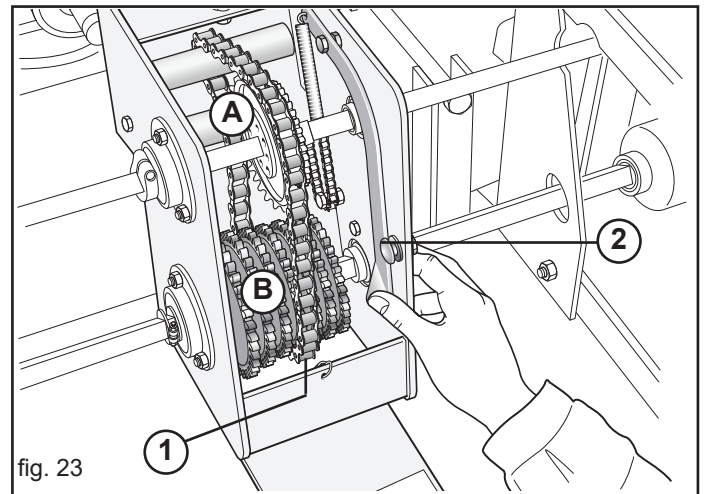

fig. 23
- Move left and see on which pair of gears (A-B, Fig.23) to place the gear chain;
- To move the chain, open the gearbox cover and loosen the chain (1, Fig. 23) by means of the lever (2);
- Tighten the chain again with the lever (2, Fig. 23) and close the cover.